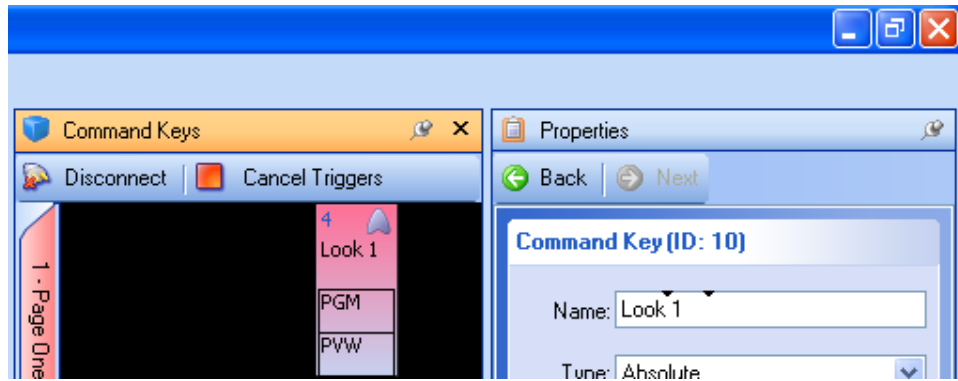

Figure 1
Figure 1 displays a command key list in Vista Advanced containing a single command key named 'Look 1'. The number 4 is displayed in the top-left corner of the command key, denoting that the register ID for this command key is 4. Notice in the property panel to the right of the command key panel that the Command Key's data ID is 10. The 'Recall Script Cue' (RSC) command allows command keys to be recalled externally using either the register ID (4) or the command key script ID (10).